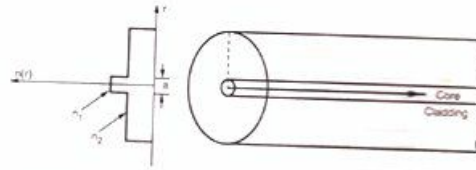

Fig. 1.6.16 The refractive index profile and ray transmission in single mode step index fiber.
- Fig. 1.6.16 shows single mode fiber.